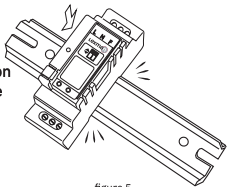

figure 5
6. Install the box including the receiver on the DIN rail of the electrical panel (see figure 5).